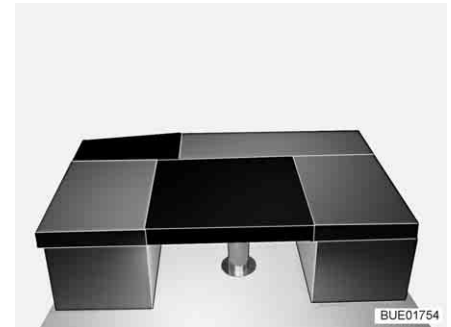

Fig. 131 After conversion
- Place the rectangular additional cushion on the table (in front of the seat cushions of the benches, see Fig. 131).